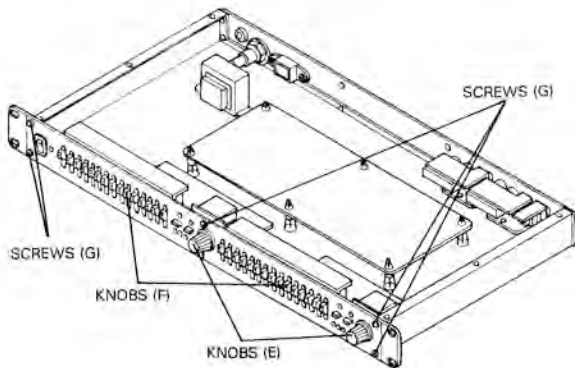

Fig. 2
- (a) Remove 2 knobs (E). (Fig.2)
- (b) Remove 30 knobs (F). (Fig.2)
- (c) Remove 5 socket screws (G). (Fig.2)